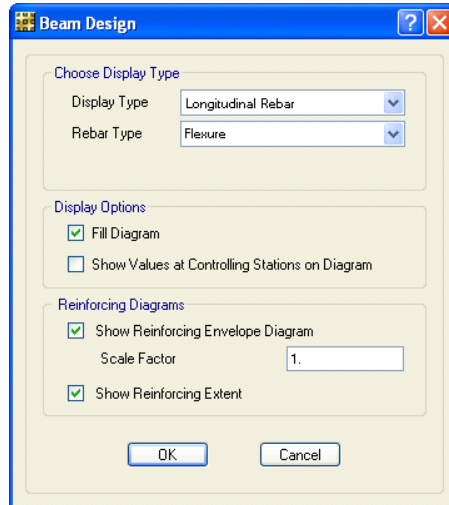

Figure 42 Beam Design form
- L. To view the required reinforcing in the beams, click the **Display menu > Show Beam Design** command. The Beam Design form shown in Figure 42 displays.